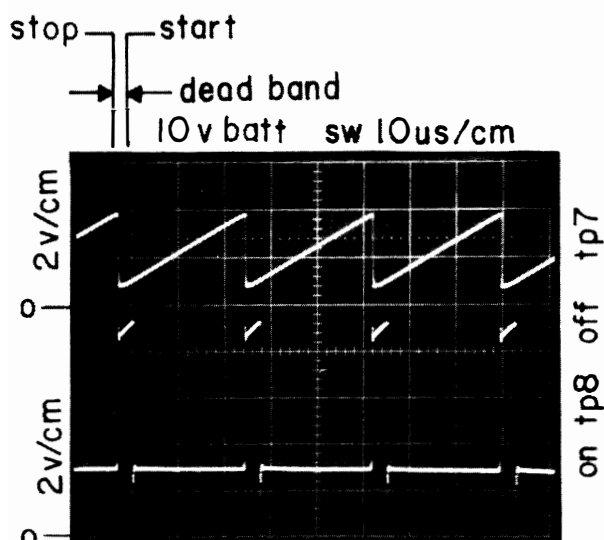
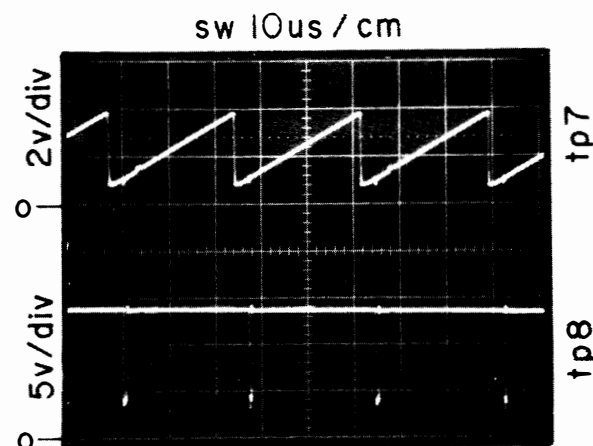

Figure 8 Ramp and 3524 Output, Maximum Duty Cycle
Figure 9 Ramp and 3524 Output, Minimum Duty Cycle
Oscillator Section. The oscillator section in the 3524 uses an external resistor to establish a constant charging current into an external capacitor. While this uses more current than a series connected RC, it provides a linear ramp voltage on the capacitor which is also used as a reference for the comparator. Refer to Figures 8 and 9 for the ramp waveforms.
The switching waveform appears in Figures 8 and 9.
Deadband Control. The 3524 pulse width modulating regulator provides two outputs which alternate in turning on. The internal oscillator sends a momentary blanking pulse to both outputs at the end of each period to provide a "deadband," a period in which neither input is on. The deadband is illustrated in Figure 8, Peripheral Circuitry.
- c. Verify that the waveform on IC4-12 matches that of Figure 8 when the supply is set to 10 V and matches Figure 9 when the supply is set to 13.8 V.